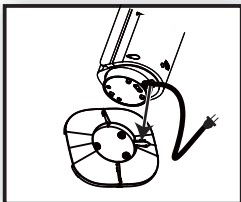

Figure 6
4. Align power cord to the slot on the top side of the base. (Figure 6)